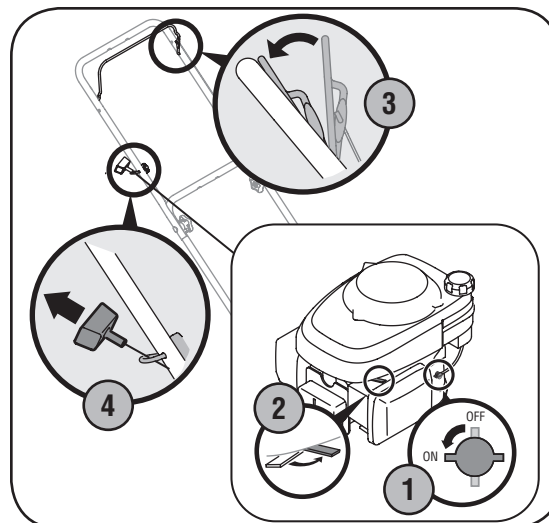

Figure 4-3: Starting the Honda engine.
1. Place the fuel valve lever found on the left side of the engine into the ON (OPEN) position. See Figure 4-3.
3. Standing behind the mower, squeeze the blade control against upper handle. See Figure 4-3. The choke will now begin to slowly return to the off choke position after activating the blade control. Therefore, quickly move onto step four below.
4. Holding these two handles together firmly, grasp recoil starter handle and pull rope out with a rapid, continuous, full arm stroke. See Figure 4-3. Keeping a firm grip on the starter handle let the rope rewind slowly. Repeat until engine cranks. Let the rope rewind each time slowly.